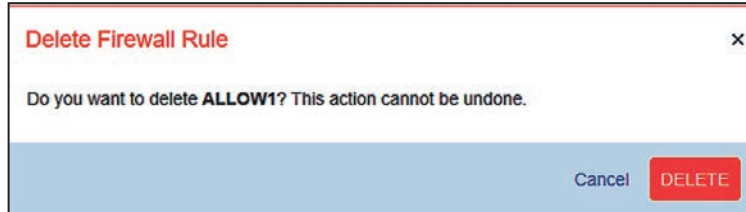

Figure 64. The Delete Firewall Rule dialog box.
- STEP 2.** A dialog box appears to allow the rule to be deleted. See Figure 64. To delete the firewall rule, click on the **Delete** button.